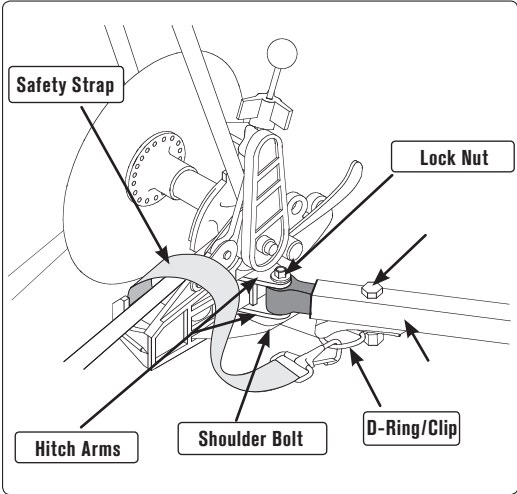

FIGURE 2: Classic Hitch
- Remove shoulder bolt, lock nut and washer from flex connector in end of tow bar, and disconnect trailer tow bar from hitch. **FIGURE 2**